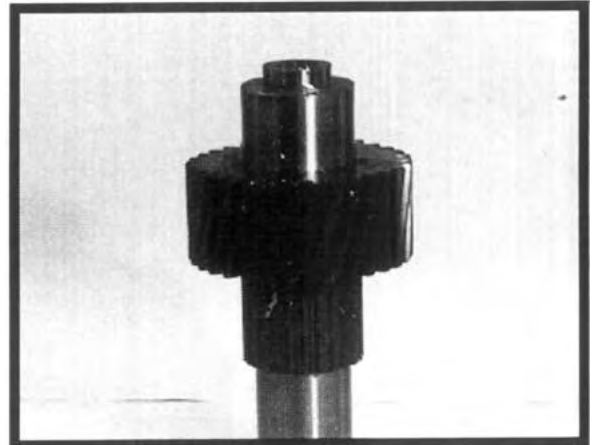

Figure 6.9
3. Heat and install the smaller of the two gears. See Figure 6.9.